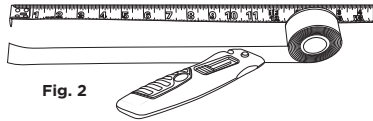
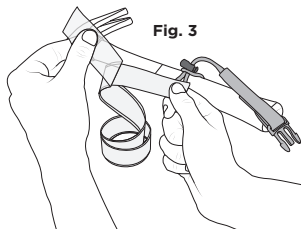

Fig. 2
Fig. 3
3. Measure and cut specified length of tape [fig 2] indicated on the table on the reverse side. Remove plastic coating from tape. [fig 3]